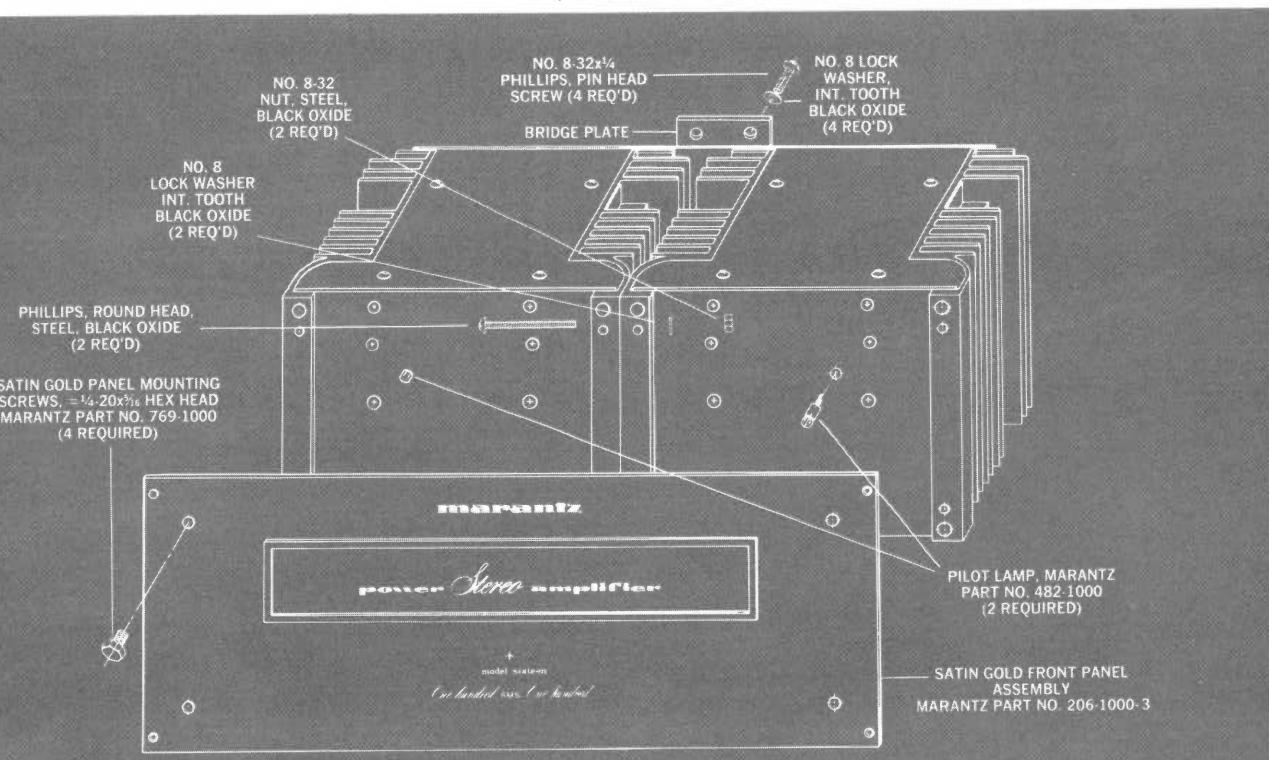

Figure 12. Amplifier Circuit Board.
4. On Figure 12, page 19, callouts for +46 VDC and -46 VDC should be moved one hole toward the center of board.